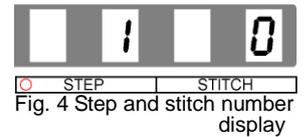

Fig. 4 Step and stitch number display
(3) Ensure that step "1" displays and stitch number "0" is flashing. (Fig. 4)
(5.1) Set the fabric and toe the pedal to perform straight lock stitching after performing the set start backtacking. When the pedal is returned to the neutral position after stitching area A in Fig. 3, the number of stitches made displays and flashes at the stitch number display area shown in Fig. 4.
(5.2) Next, raise the presser foot (by light heeling or by the foot switch), change the fabric direction, and lower the presser foot. Step "2" then displays at the step display area shown in Fig. 4 and stitch number "0" starts flashing at the stitch number display area.